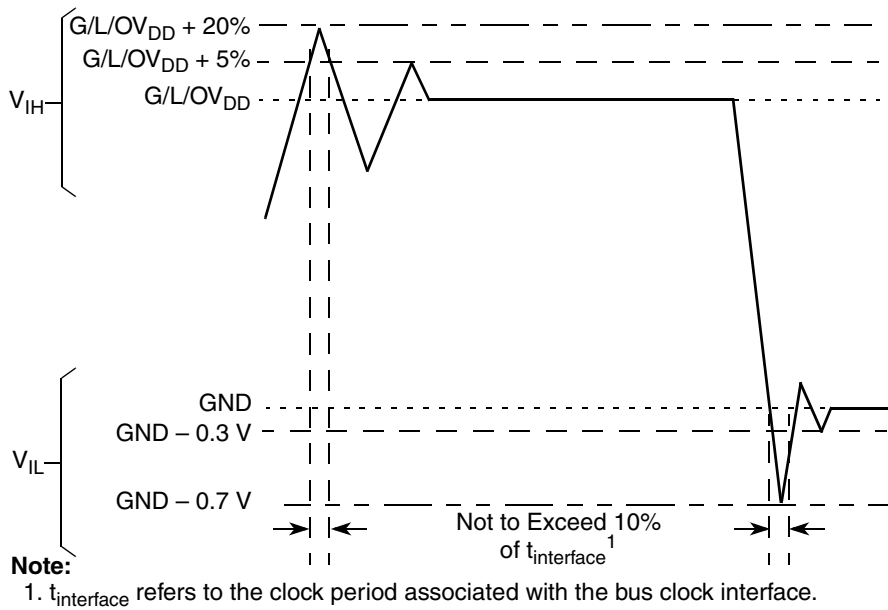

Figure 2. Overshoot/Undershoot Voltage for $GV_{DD}/OV_{DD}/LV_{DD}$
- ⁵ (M,L,O) V_{IN} and MV_{REF} may overshoot/undershoot to a voltage and for a maximum duration as shown in Figure 2.
Figure 2 shows the undershoot and overshoot voltages at the interfaces of the MPC8347EA.